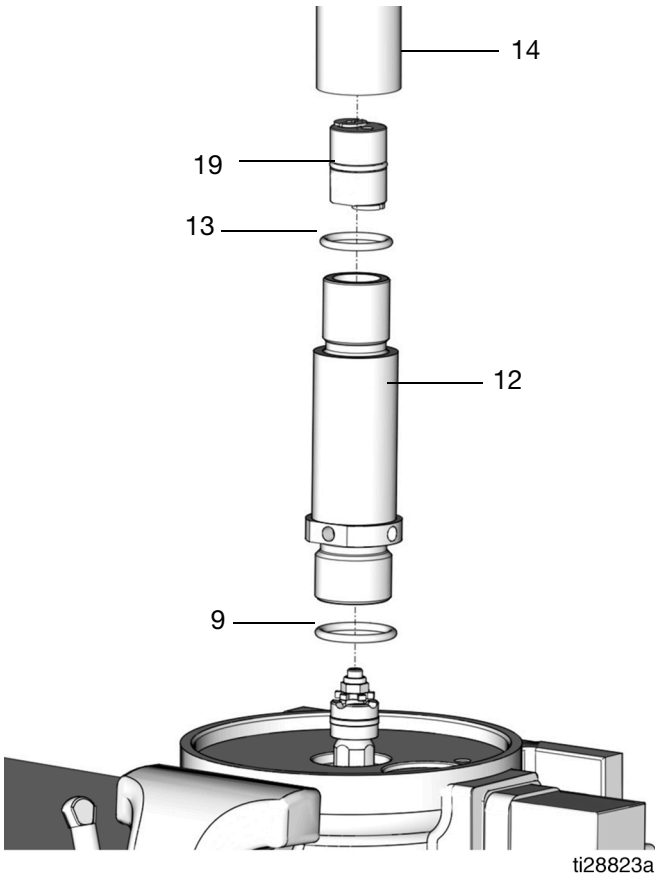

**FIG. 36**
**Pump Piston Subassembly (33)**
13. Apply a thin layer of grease to the piston seal (33). Install the piston seal over the piston rod (34).
14. Install the star washer (32) and the lock nut (31) on the piston rod (34), as shown in FIG. 36